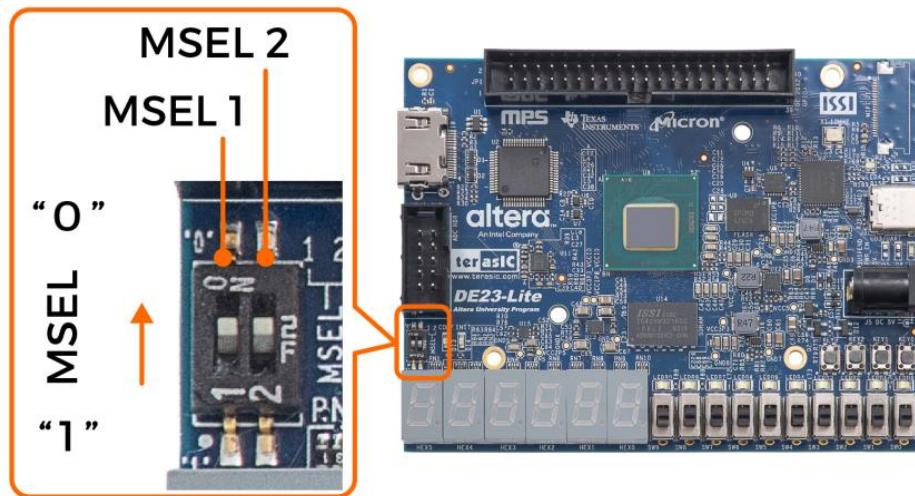

Figure 5-2 SW2 for FPGA Configuration Mode
4. Verify that the MSEL Settings Switch on DE23-Lite is set to AS mode (MSEL[2:1] = 2'b00) as shown in **Figure 5-2**.
2. Verify that the MSEL Settings Switch on DE23-Lite is set to AS mode (MSEL[2:1] = 2'b00) as shown in Figure 5-2.